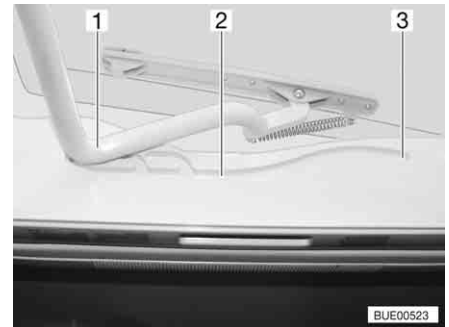

Fig. 79 Heki skylight, guide
- Pull the bar (Fig. 79,1) in the guides (Fig. 79,2) to the rearmost position (Fig. 79,3).
- Use both hands to push the bar (Fig. 79,1) slightly upwards.
- Pull the bar in the guides (Fig. 79,2) to the desired position.